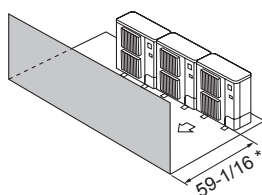

Fig. 2-13
③ Obstacles at front (Fig. 2-13)